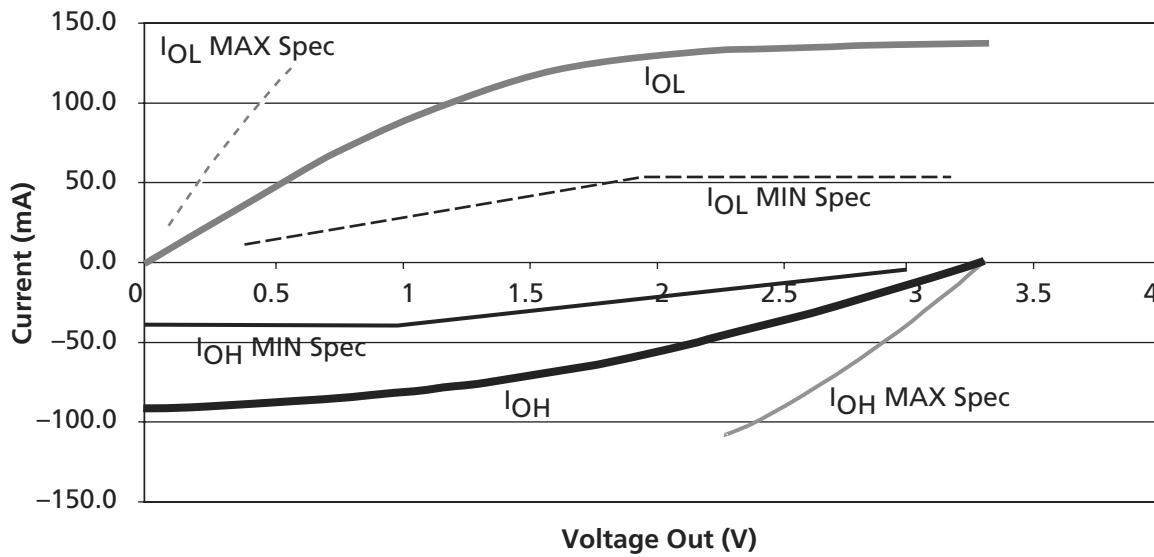

Figure 2-2 • 3.3 V PCI V/I Curve for SX-A Family
- Refer to the  $V/I$  curves in Figure 2-2 on page 2-7. Switching current characteristics for REQ# and GNT# are permitted to be one half of that specified here; i.e., half size output drivers may be used on these signals. This specification does not apply to CLK and RST#, which are system outputs. "Switching Current High" specifications are not relevant to SERR#, INTA#, INTB#, INTC#, and INTD#, which are open drain outputs.
- Maximum current requirements must be met as drivers pull beyond the last step voltage. Equations defining these maximums (C and D) are provided with the respective diagrams in Figure 2-2 on page 2-7. The equation defined maximum should be met by design. In order to facilitate component testing, a maximum current test point is defined for each side of the output driver.
Figure 2-2 shows the 3.3 V PCI V/I curve and the minimum and maximum PCI drive characteristics of the SX-A family.